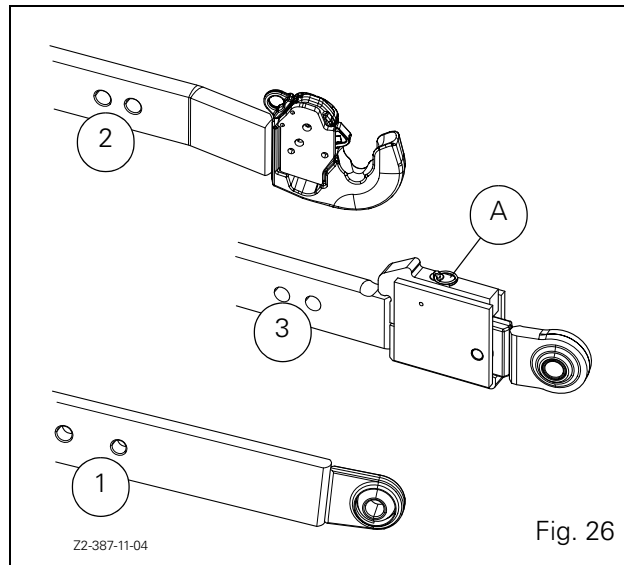

Fig. 26
- Fixed ball end type (1, Fig. 26)
- Hook and ball type (2, Fig. 26)
- Telescopic lower links (3, Fig. 26) (only available in certain countries).